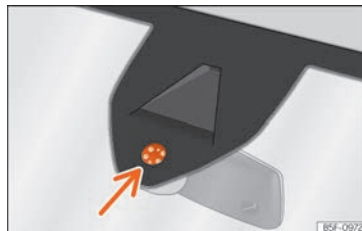

Fig. 114 Rain sensor sensitive surface
Possible causes of faults and mistaken readings on the sensitive surface »» Fig. 114 of the rain sensor include:
- Regularly clean the sensitive surface of the rain sensor »» Fig. 114 (arrow) and check for possible damage to the wiper blades.